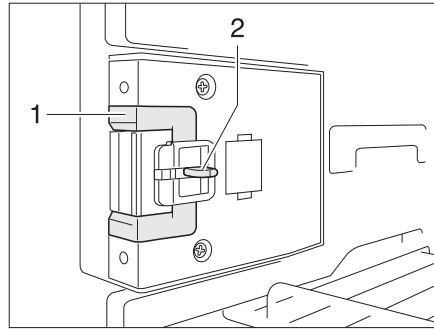
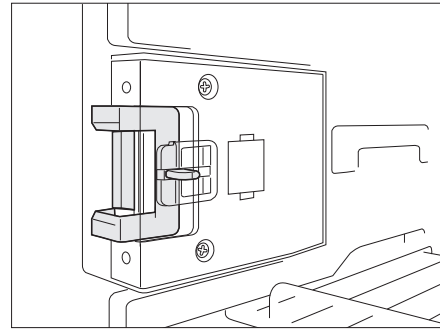

Fig. 359 Locking device in normal position
Fig. 360 Locking device in ventilation position
- Press down the unlocking device (Fig. 359,2).
- Push locking device (Fig. 359,1) forwards (Fig. 360).